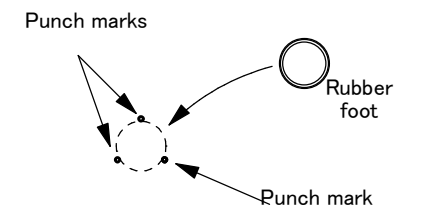

Fig.4 Rubber feet attachment method
- Clean the area around the punch marks with alcohol to remove all soil and grease. Peel the protective paper from the rubber feet, and then press them firmly into place within the respective punch marks, as shown in Fig.4.